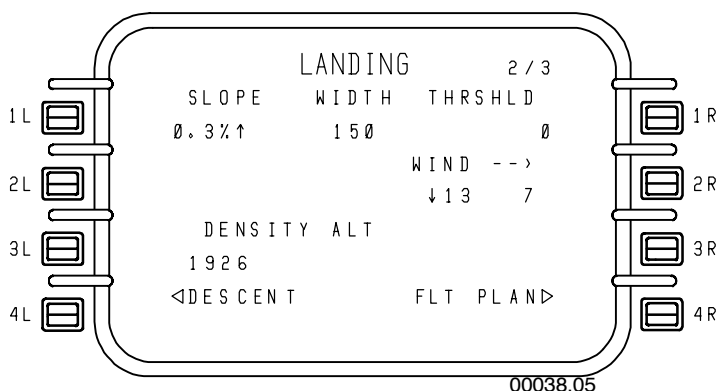

Figure 5-36
- **LANDING 2/3** – Figure 5-36 displays the calculated data from the information on the LANDING 1/3 page.